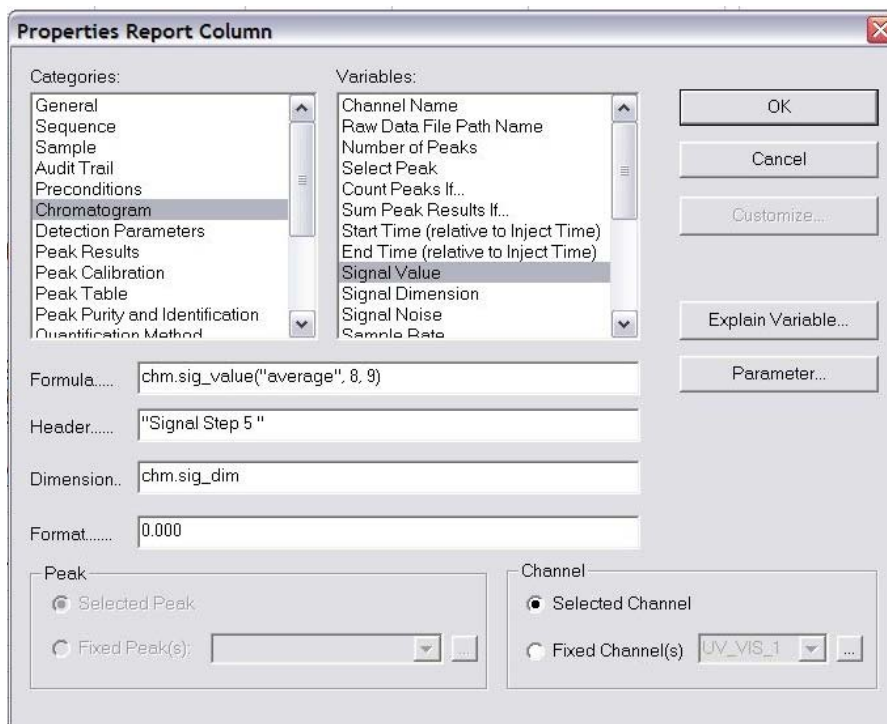

FIGURE 4-15 The Properties Report Column Box
- e) Double click on each column to open the **Properties Report Column** box (FIGURE 4-15).
- g) Modify the values in the 'Formula' field (FIGURE 4-15). Each segment used for the calculation is defined by a start and a stop time (e.g. in the example in FIGURE 4-15 starts at 8 minutes and ends at 9 minutes).